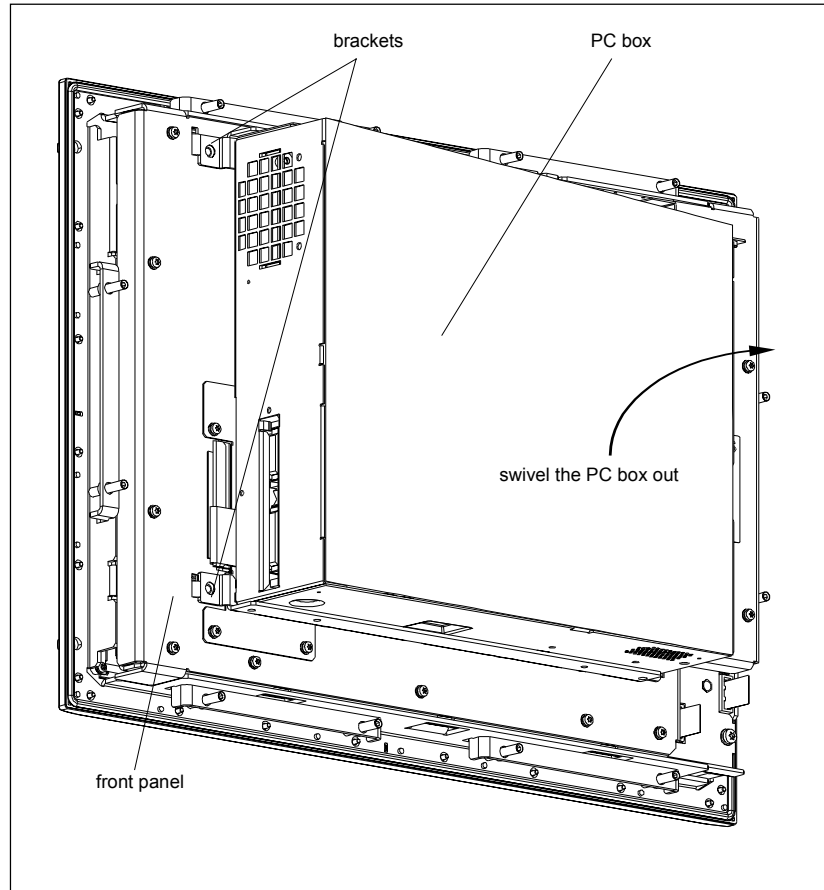

Figure 7-2 Detaching the PC box
- At the back of the panel PC, remove a total of four screws from the brackets (see Figure 7-2).
The weight of the PC box can cause the hinged clasp on the PC box from the panel PC 870 to bend. Support the PC box as you swivel it out (see Figure 7-2).